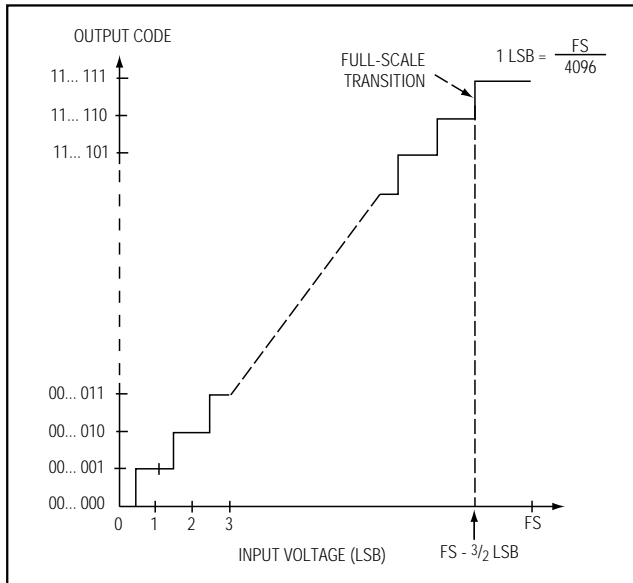

Figure 13a. Unipolar Transfer Function
Output data coding for the MAX127/MAX128 is binary in unipolar mode with  $1\text{LSB} = (\text{FS}/4096)$  and two's complement binary in bipolar mode with  $1\text{LSB} = [(2 \times |\text{FS}|)/4096]$ . Code transitions occur halfway between successive-integer LSB values. Figures 13a and 13b show the input/output (I/O) transfer functions for unipolar and bipolar operations, respectively. For full-scale (FS) values, refer to Table 3.